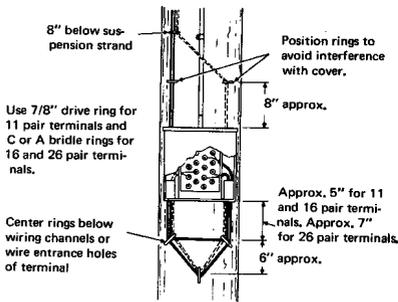

FIGURE 4. Rerouting Drop Wire Below Terminal
- 4.05 When the necessary slack cannot be obtained by routing the drop wires as described in paragraph 4.04, splice out the drop wire in the vertical run above the terminal and run the wire through all three rings below the terminal (see Figure 4).